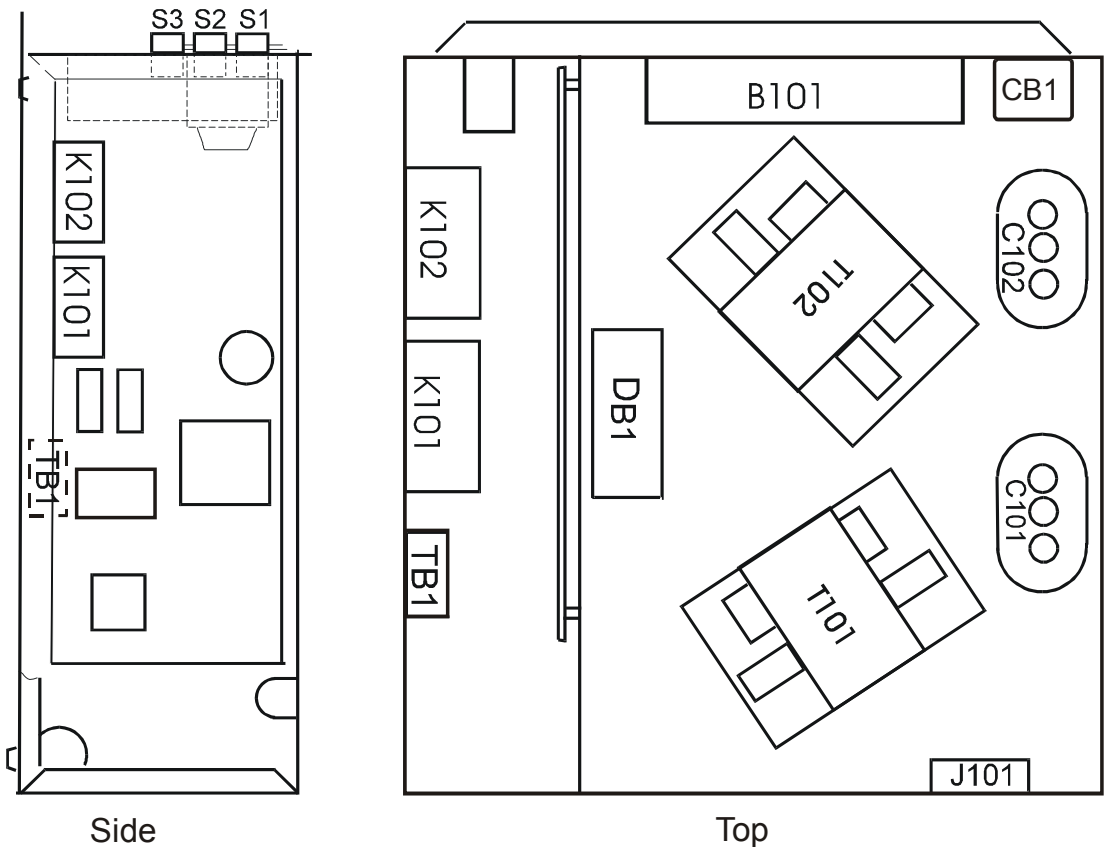

Figure 46. P300MT Component Identification
5. To install a replacement card, reverse this procedure. Note the location of the connectors in Figure 46 on page 115 and reinstall as shown.